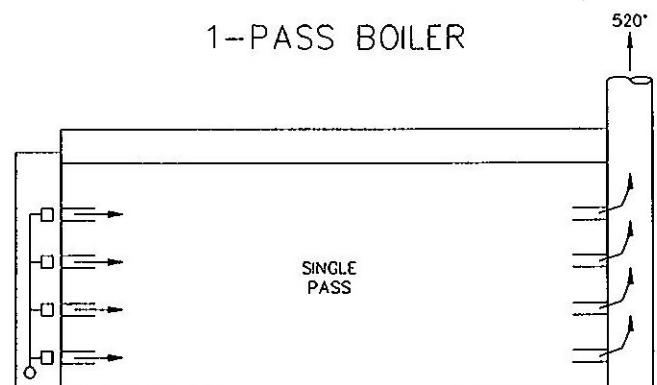
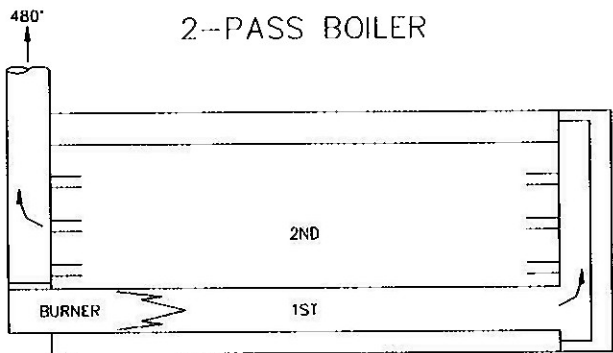

Figure 6
Figure 7
water back or refractory back construction. The number of passes refers to the number of times the combustion products pass through the boiler to transfer heat to the water. Most boilers today are either three (3) or four (4) pass designs, although there are still some single pass boilers manufactured. Figure 6 shows typical one (1) pass boiler and Figure 7 shows a typical two (2) pass boiler.